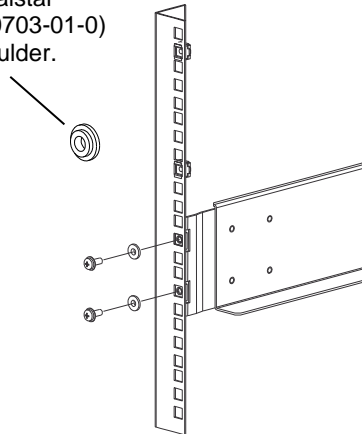

Figure 5-4 Screws and Washers securing a Rack Rail Assembly to the Rack Posts
6. Using the screws and washers that were supplied with the rack rail assembly, attach the assembly to the rack using all four mounting bracket holes on each slide assembly. Tighten the hardware securely with a Number 2 Phillips screwdriver making sure that the washers are in place as shown in Figure 5-4.